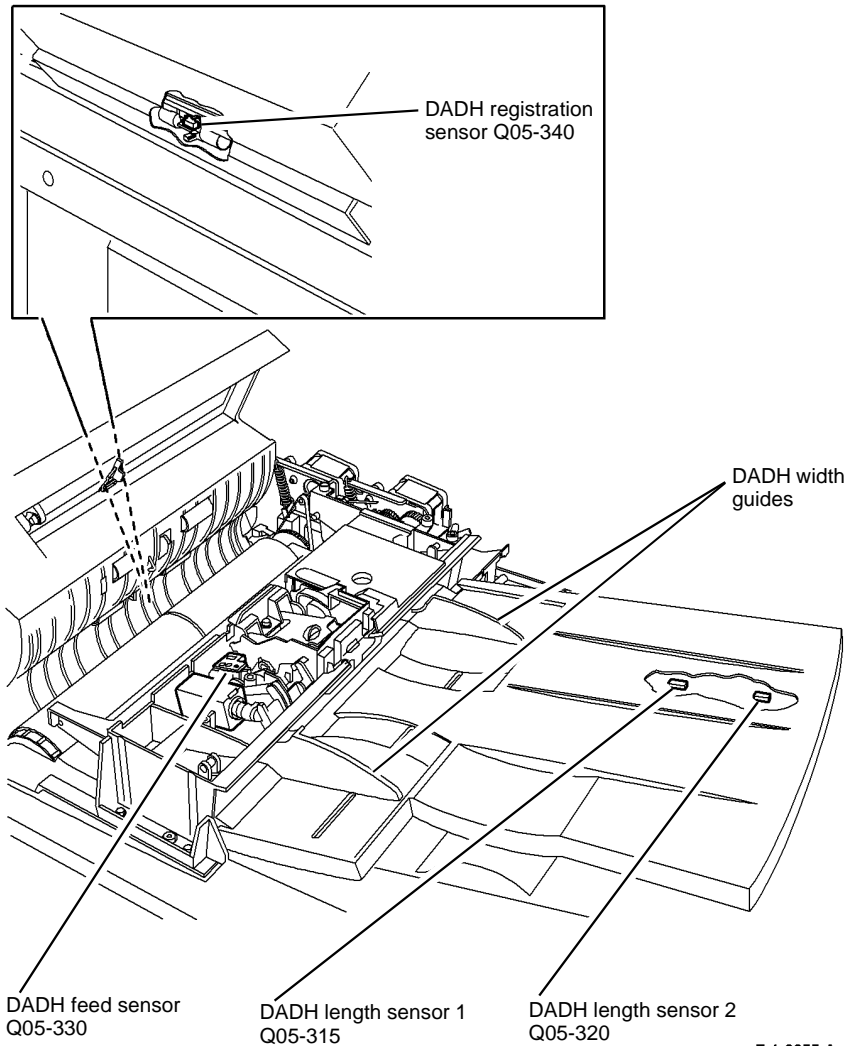

Figure 1 Component location
- **Figure 1.** Check that the harness connector at PJ2 on the IOT PWB is fully inserted.